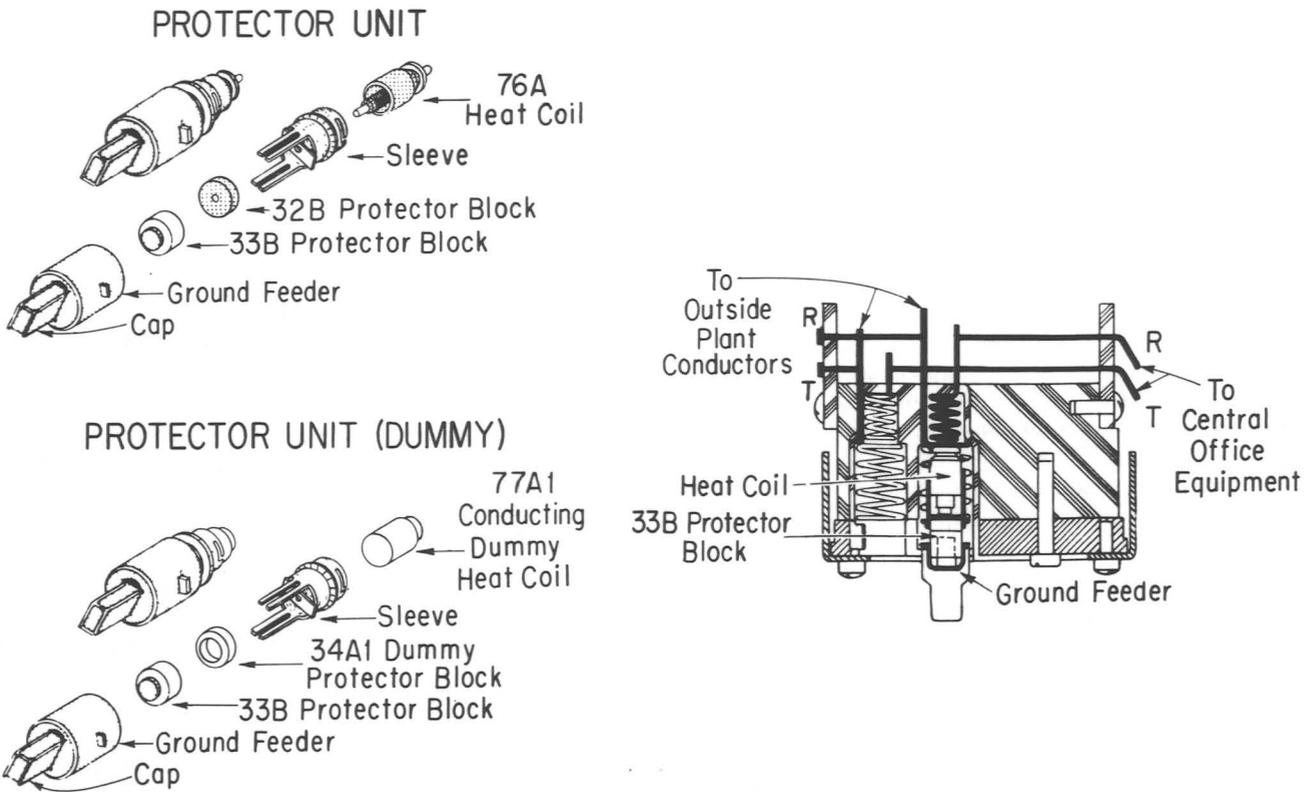
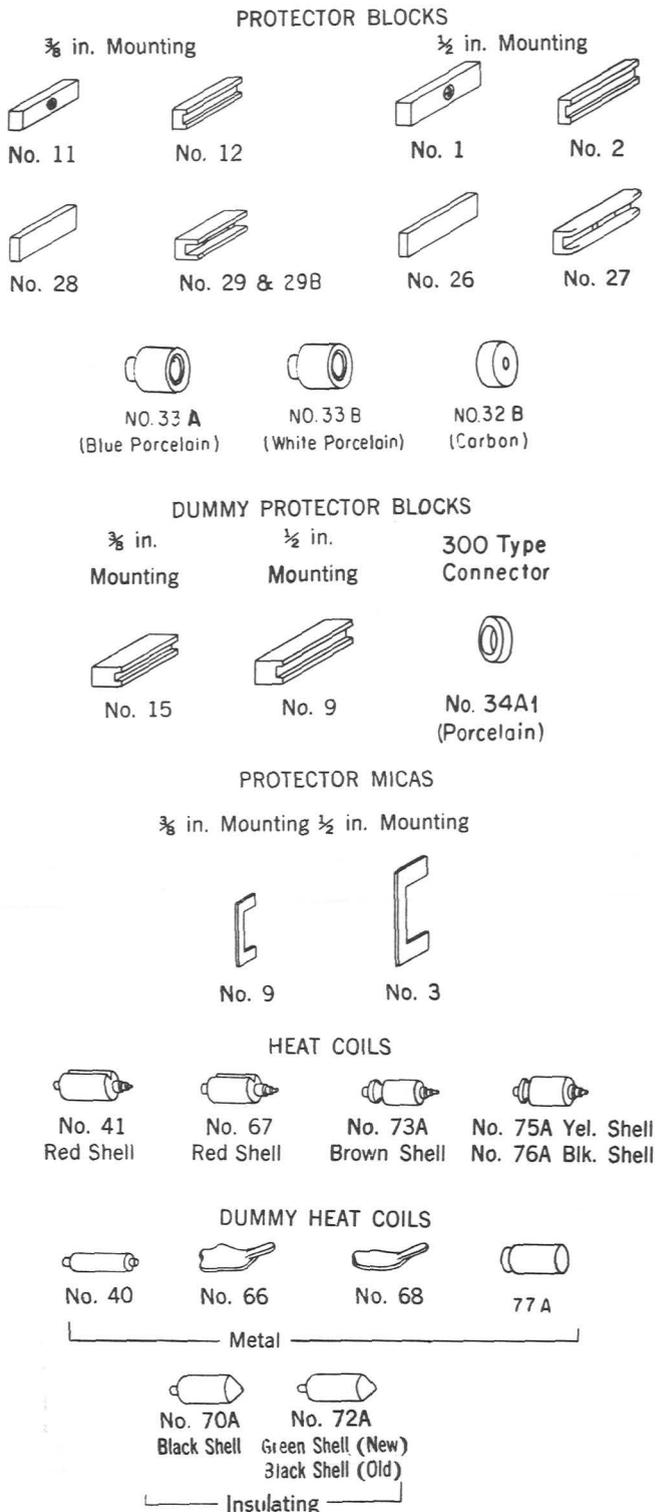
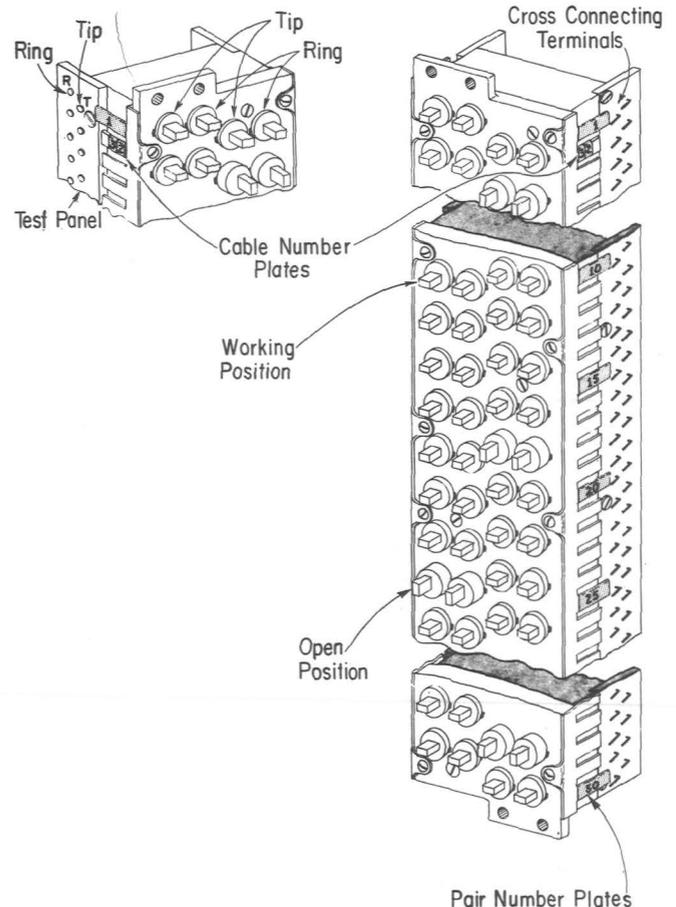

Fig. 1 - 300-type Connector
Fig. 3 - Types of Protector Blocks and Heat Coils
Fig. 4 - 300-type Connector
1.02 This section is reissued to make reference to the 300-type connector which replaces the 121-type protector, to revise Fig. 1 to include the dummy protector unit, and to revise Fig. 3 to better illustrate the No. 34A1 dummy protector block.
(a) In the working position, the protector unit (see Fig. 1) is inserted and turned in a clockwise direction so that the stripe on the cap is horizontal (see Fig. 4).
(b) In the open position, the protector unit is rotated 90° counterclockwise from the working position. In this position, the stripe on the cap is vertical and the cap projects further from the faceplate (see Fig. 4). In the open position, the central office equipment is disconnected from the outside plant conductor. Protective carbons, where provided, are still effective.
(d) In either the working or open position, the ground feeder of the protector unit (see Fig. 1) rests against the inside surface of the grounded aluminum faceplate. This ground is fed through the ground feeder to the carbon insert of the No. 33B protector block.
(e) If the heat coil operates, the tip of the coil passes through the hole in the No. 32B carbon block or No. 34A1 porcelain block and makes contact with the grounded insert of the No. 33B protector block (see Fig. 1).
1.12 Fig. 1 and 2 show the typical arrangement of protectors used on "B" type frames and Fig. 3 shows the various types of protector blocks and heat coils including the older types which may still be in use. Table 1 shows the present standard types of heat coils and protector blocks and also the corresponding older types.